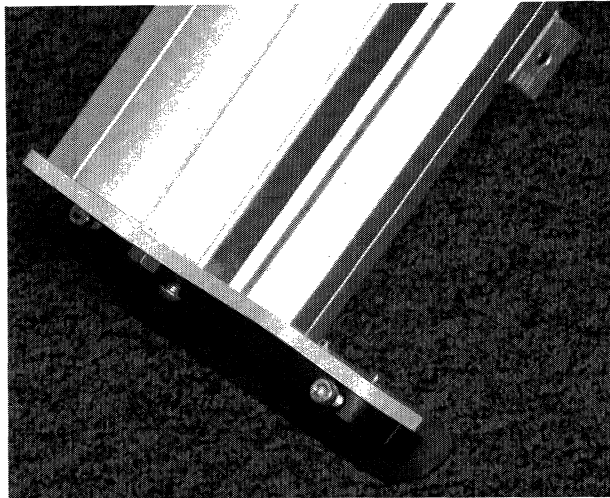

Fig. 10
9. Slide the two stacked plates out and place the 1/8" Thick Spacer Plate (SRE-30550) at base of folding rail [Fig. 10].